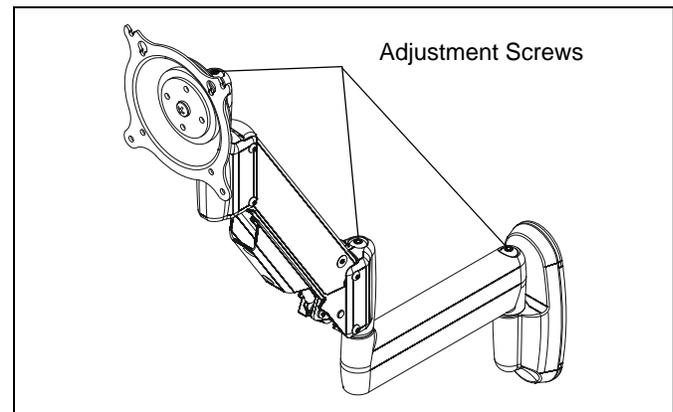

Figure 56
1. Using 3/16" hex key (Z), slightly loosen or tighten the adjustment screw(s) as necessary. (See Figure 56)